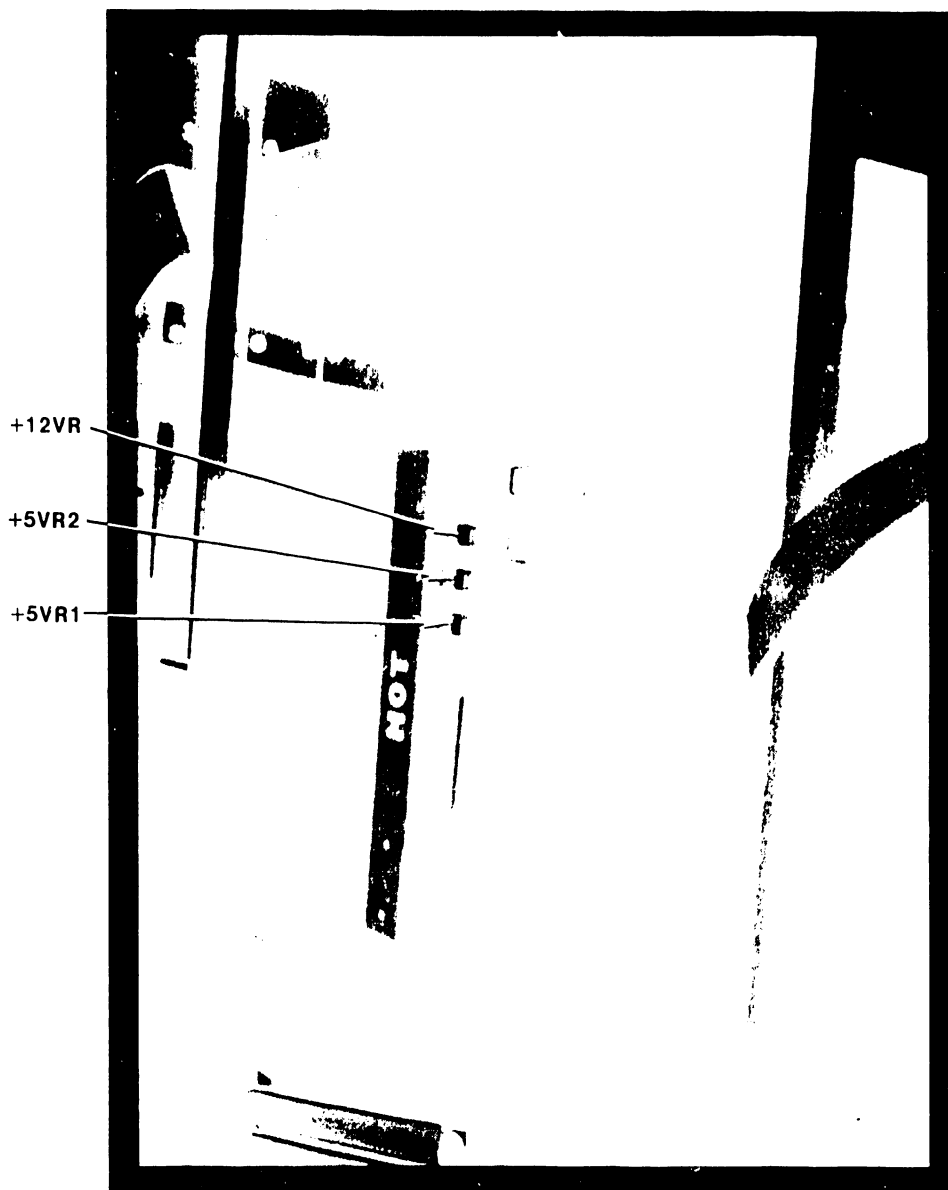

FIGURE 5-2 VOLTAGE ADJUSTMENT POTS
- e. Adjust positive voltages to within limits using the three adjustment pots located on the TCP Regulator Board (see figure 5-2):